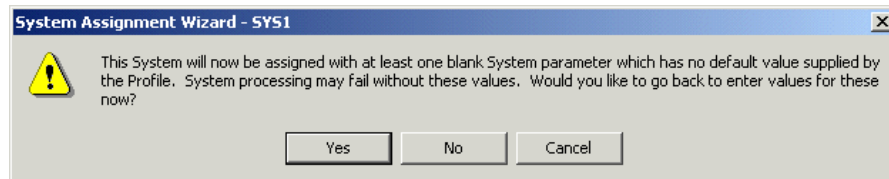

Figure 5-16 System assignment wizard
19. Click **Next**. The message shown in Figure 5-16 appears.